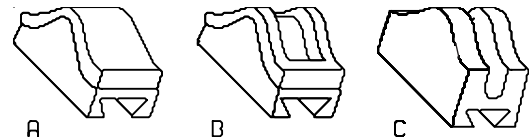

Figure 2
1. Choose an adapter head for the type of fiber to be tested. The F6121A is supplied with three adapters (as shown in Figure 2): (A) *foam-covered*, to accommodate 900  $\mu\text{m}$  buffered fiber; (B) *smooth-surfaced with foam perimeter*, for use with ribbon fiber or a 250  $\mu\text{m}$  coated fiber; and (C) *slotted*, for 3 mm and *optional* 2 mm jacketed fiber (i.e., pigtails and jumpers) or loose tube fiber.